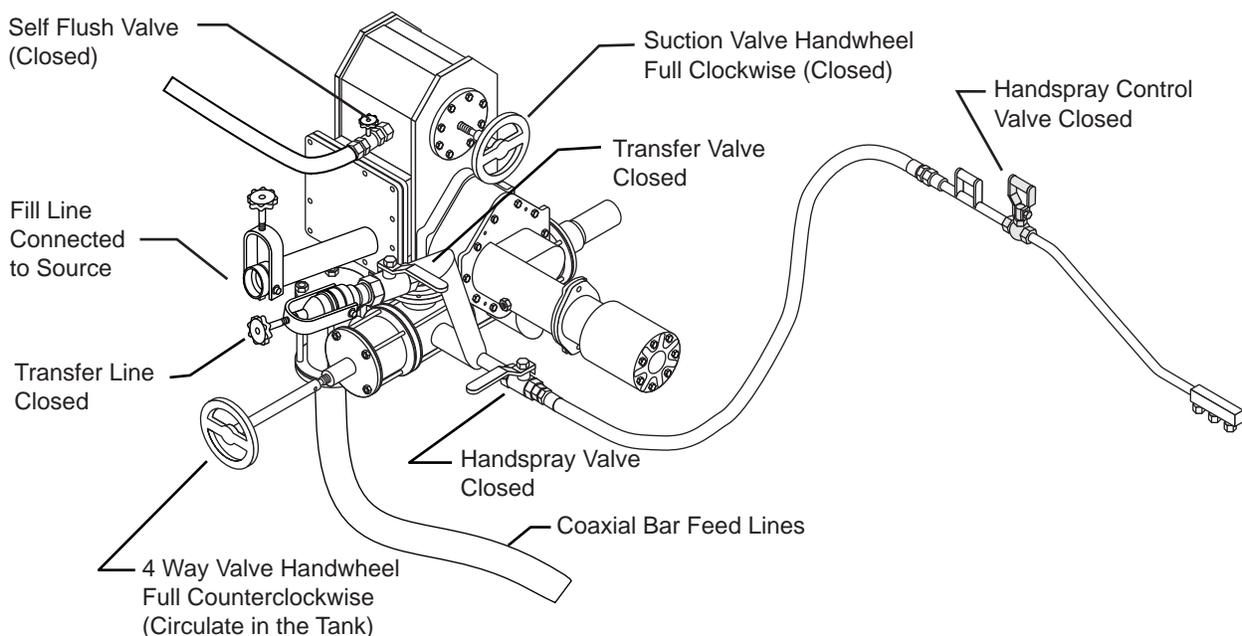

Figure 1. Valve Positions for Filling
1. Clean suction strainer daily after suckback and flushing operations have been completed. (See Figure 1)
9. Set all of the valve positions (see Figure 1).